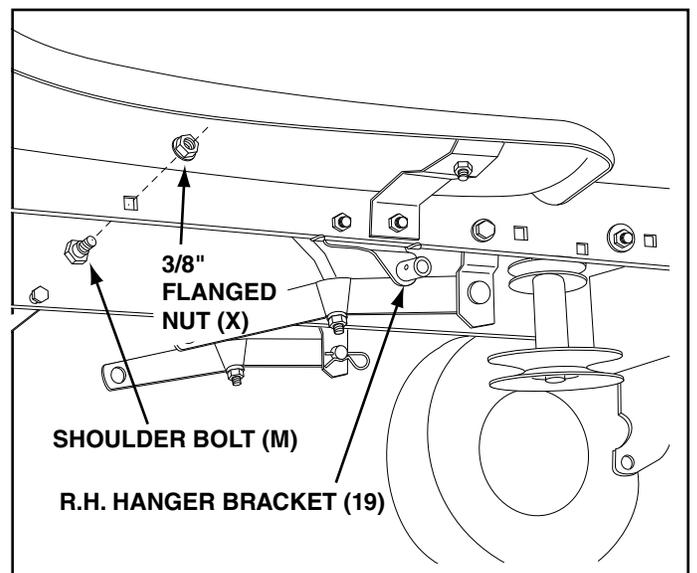

FIGURE 28 RIGHT SIDE VIEW
STEP 28: (SEE FIGURE 28)
- Assemble a shoulder bolt (M) and 3/8" flanged nut (X) to the R.H. side of the tractor frame, using the first empty hole to the rear of the R.H. hanger bracket (19). Bolt goes on inside of frame.